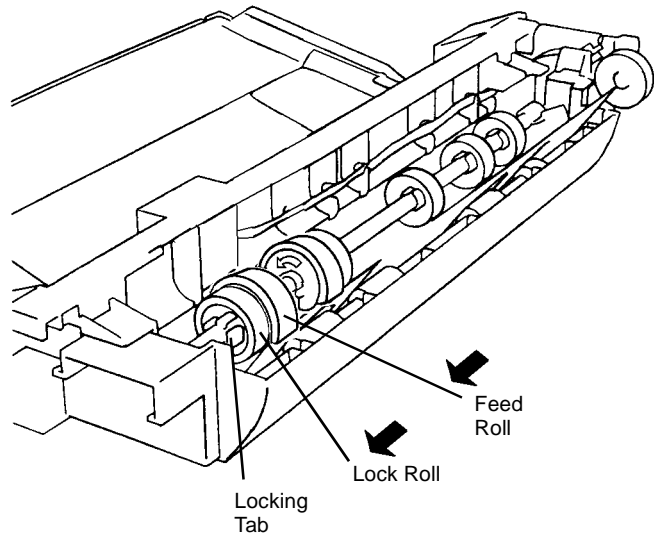

Figure 2 Removing Feed Roll
3. Remove Feed Roll (Figure 2).